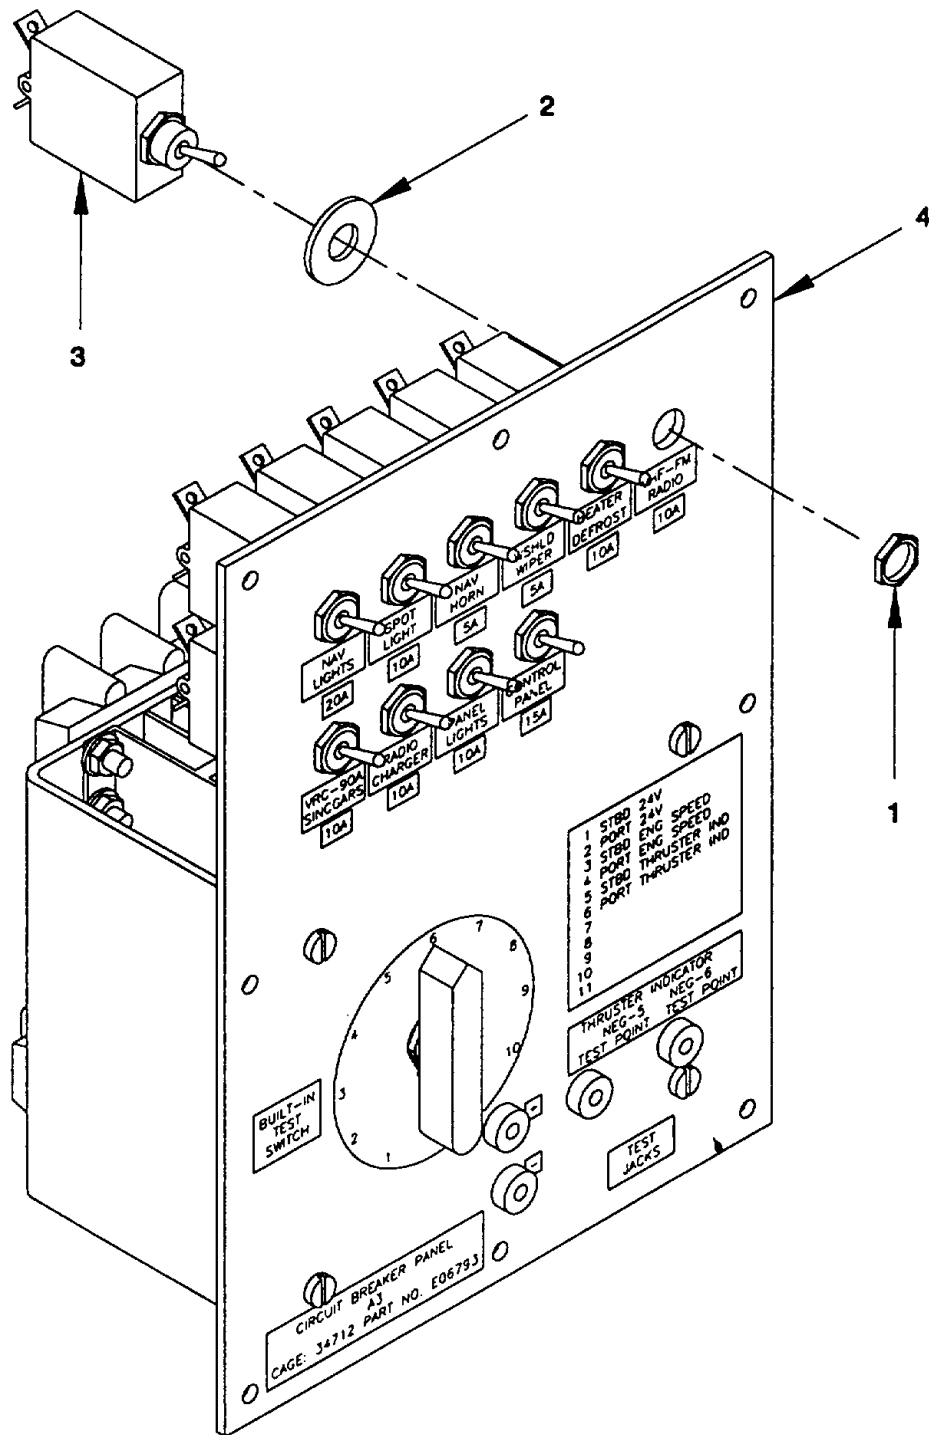

Figure 2-131. Circuit Breaker, Operator's Cab Circuit-Breaker Panel "A3", Remove/install.
a. Remove. (figure 2-131)
- (1) Tag and disconnect the wiring from the circuit breaker.
- (2) For removal of the circuit breakers (3) (navigation lights CB1 20A, spotlight CB2 10A, navigation horn CB3 5A, windshield wiper CB4 5A, heater/defroster CB5 10A, VHF-FM radio CB6 10A, SINCGARS radio CB7 10A, radio charger CB8 5A, panel lights CB9 10A, control panel CB10 15A), remove the hex nut (1) and washer (2), supplied with each circuit breaker (3), from the top side of the panel (4).
b. Install. (figure 2-131)
- (1) Replace the circuit breakers (9)(navigation lights CB1 20A, spotlight CB2 10A, navigation horn CB35A, windshield wiper CB4 5A, heater/defroster CB5 10A, VHF-FM radio CB6 10A, SINCGARS radio CB7 10A, radio charger (CB8 5A), panel lights CB9 10A, control panel CB10 15A, replace the hex nut (1) and washer (2), both supplied with the circuit breaker (3) at the top of the panel (4).
- (2) Reconnect electrical wiring as tagged. Refer to Appendix G.